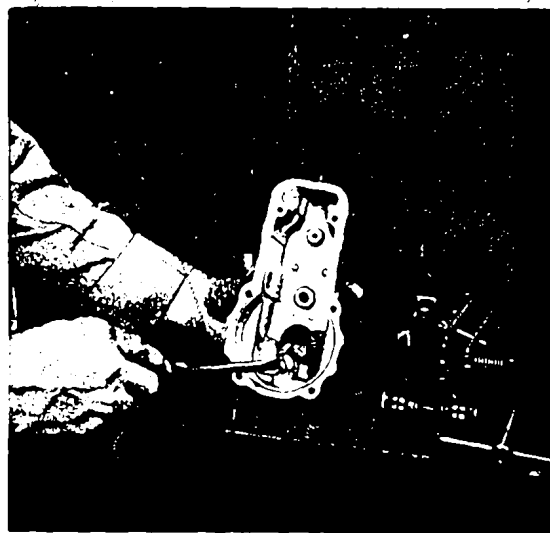

Fig. 35 Inserting the stop screw
At this stage temporally screw stop screw (41) into governor cover (Fig. 35) until it engages with lock nut (42).